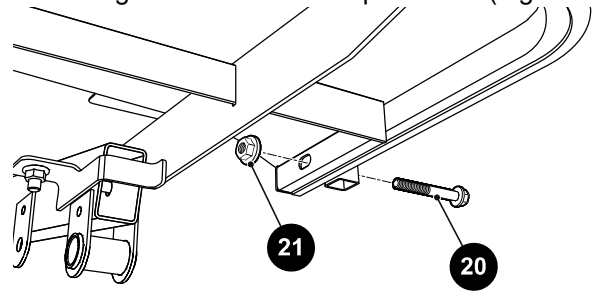

Figure 14 Rear Facing Seat Hip Restraint
6. Remove the hex head bolt (20) and nut (21) from the lower leg of the driver side hip restraint (Figure 14).